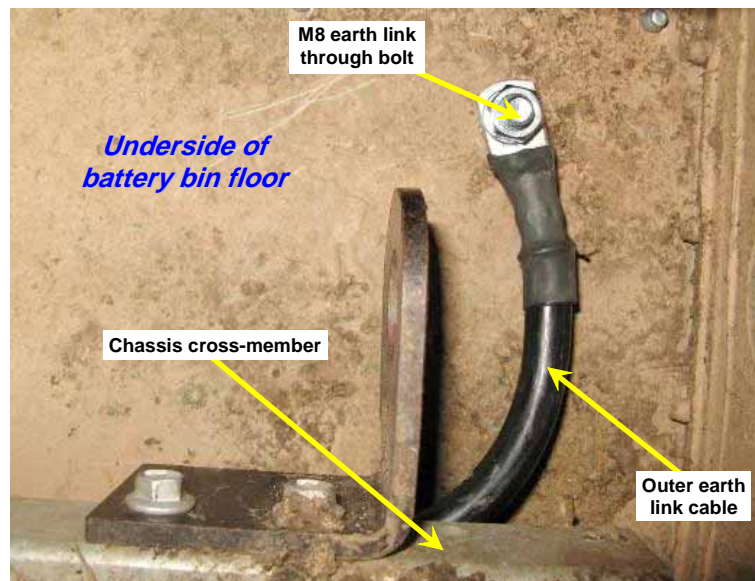

Figure 15 Main Battery Bin Earth Link Connection
- (10) From underneath the vehicle, secure the bolt with an M8 nut (Table 1, Item 46) and 8 mm lock washer (Table 1, Item 20). This will leave about 20 mm of thread available to make the outer earth link connection.
- (11) Fit the 8 mm terminal lug on one end of the long outer earth link cable (Table 1, Item 44) onto the protruding bolt thread and secure it with an M8 nut (Table 1, Item 46) and an 8 mm lock washer (Table 1, Item 20) as shown in Figure 15. The sequence is 8 mm flat washer, lug, lock washer and nut